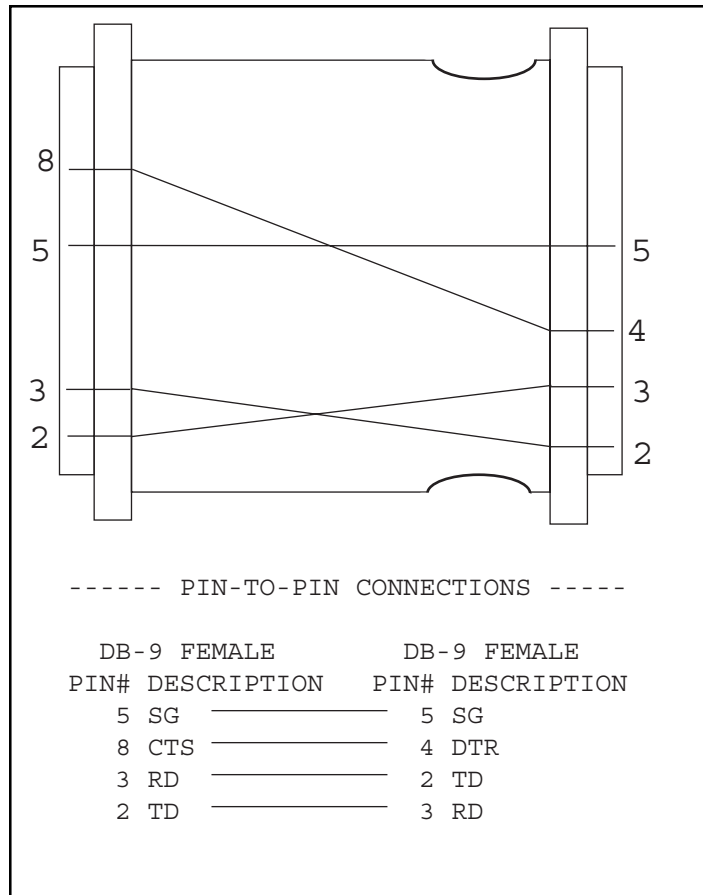
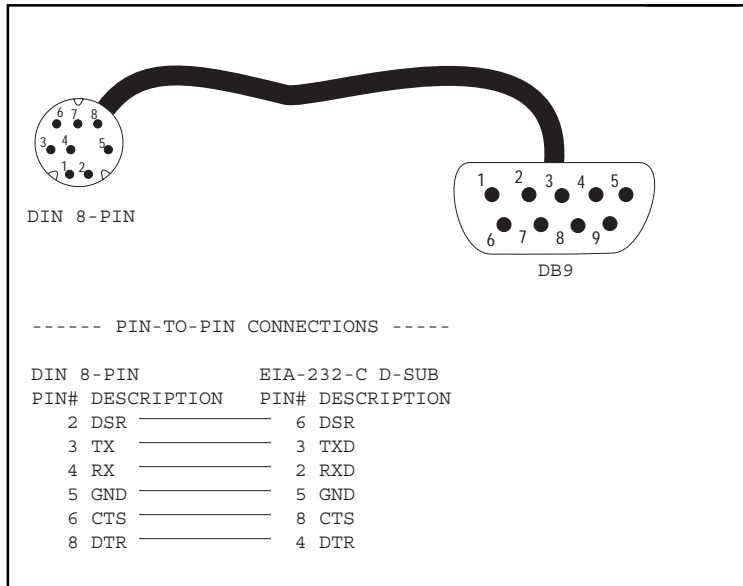

Figure 109 SS122A Null Modem Pin-Outs
Figure 110 SS115B Printer Cable Pin Assignments
If you wish to connect to a mode or other brand of printer, you may find the SS122 Null Modem Adaptor useful. Refer to Figure 109.
- 1) Connect the Sunrise Telecom DIN-8 to RS232C Printer Cable (SS115B) to the SunSet. Figure 110 displays the cable pin assignments of the DB9 Printer Cable.
Refer to Figure 110 for a diagram of the pin-to-pin assignments of the DIN to DB-9 cable supplied by Sunrise Telecom. Refer to Figure 109 for the pin-to-pin assignments of the Sunrise Telecom Null Modem Adapter.
- 3) Connect the printer cable's DB9 end into a modem. A 9600 baud error-correcting modem is highly recommended. Some functions such as VF MEASUREMENTS will only work properly if a 9600 baud modem is used. Refer to Figures 109 and 110 for cable pinouts. You may need a breakout box, appropriate tools, and training to make sure the test set is appropriately connected to the modem the first time you set it up.